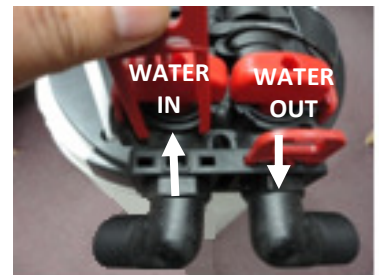

Fig 1
- The system has 3 connections - an inlet, an outlet, and a drain line connection. If you are looking at the back of the unit (fig 1), the inlet is on the left side. **Warning:** Make sure that you have correctly identified the inlet of the system. **REVERSING THE CONNECTIONS WILL RESULT IN CARBON MEDIA BEING THROWN INTO YOUR HOME'S PLUMBING SYSTEM CAUSING DAMAGE TO IT AS WELL AS THE CCF system.**